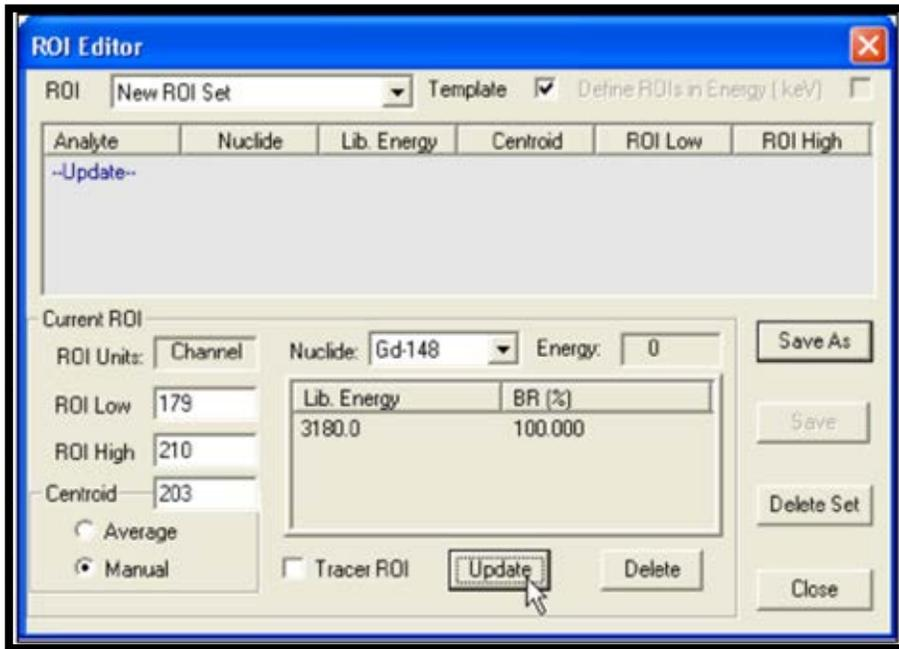
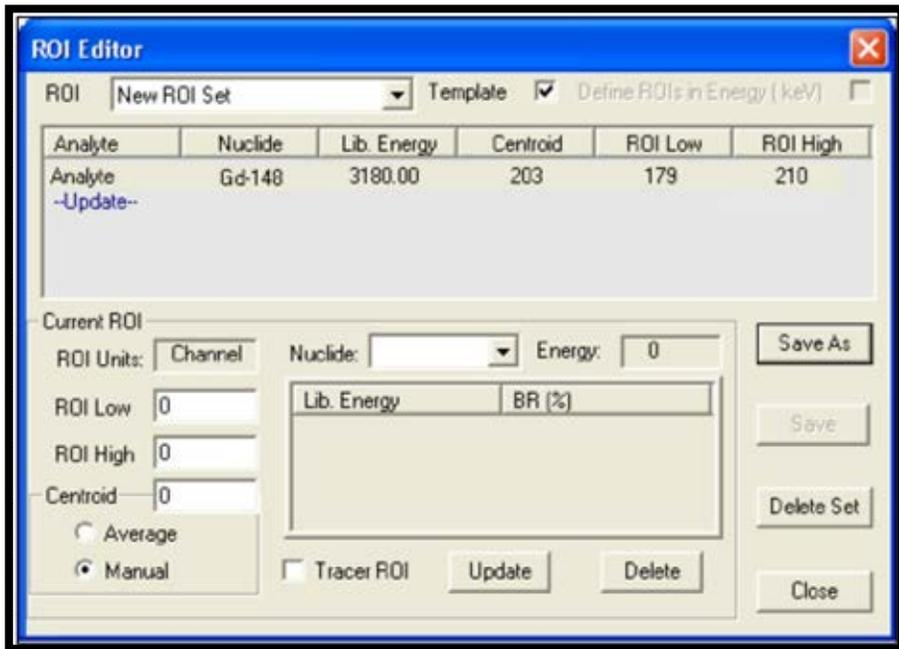

Figure 87. Select Library Nuclide and Click Update
Figure 88. ROI Has Been Added to the ROI Set
- 9) In the ROI Editor, click the **Nuclide** drop list (Figure 87) and choose the nuclide that corresponds to the peak ( $^{148}\text{Gd}$  in this example).
- 10) Finally, click **Update** (Figure 87). The values selected will now be displayed in the main section of the ROI Editor (Figure 88). The first ROI for the ROI Set has now been successfully created.